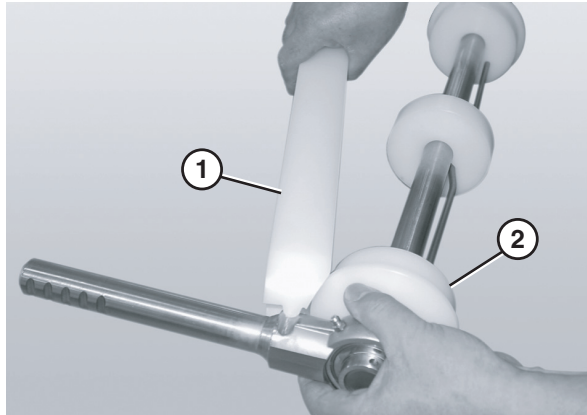

Figure 76
3. Attach the flanged pucks (Figure 76, item 2) and bearing shaft assemblies to the idler shaft.
4. Attach the guard bar (Figure 76, item 1).